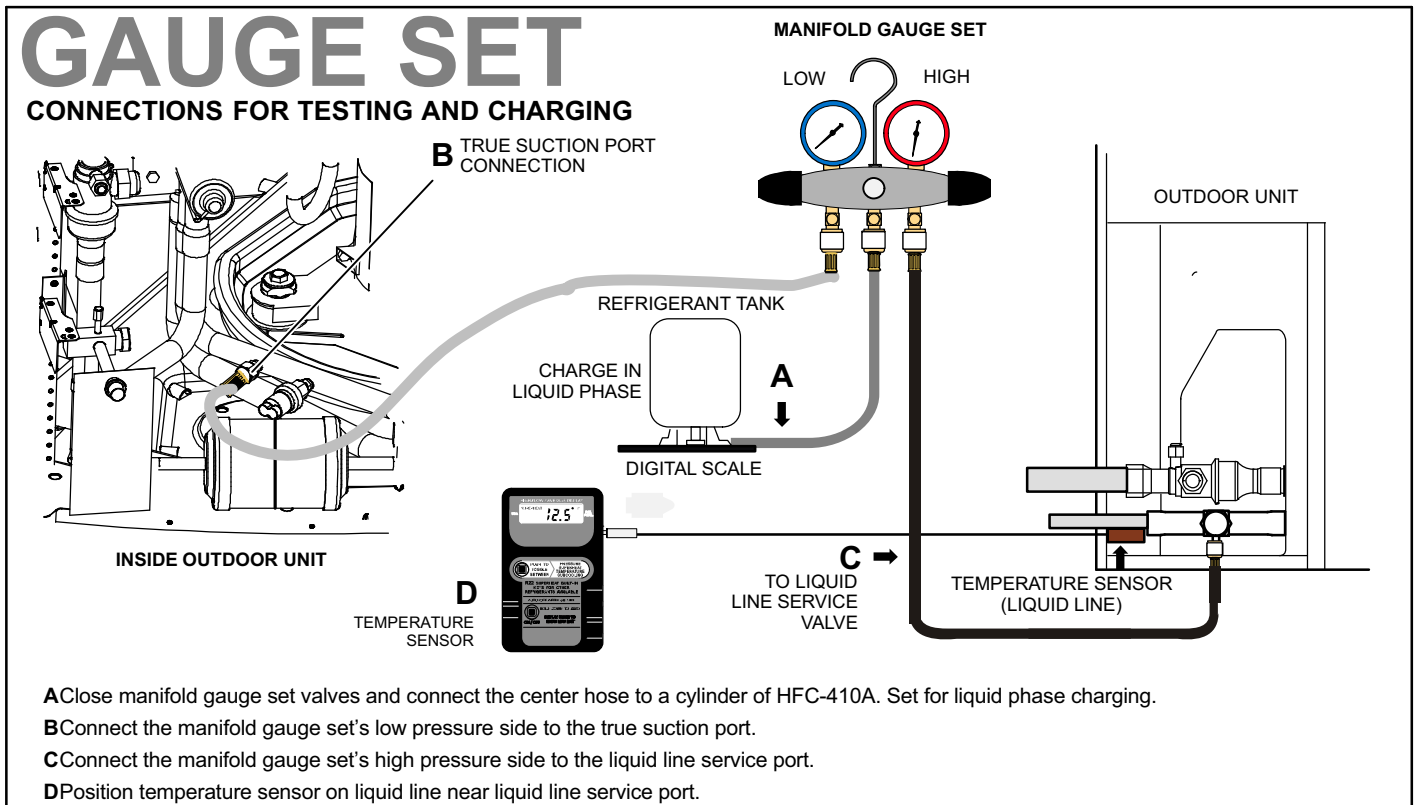

Figure 19. Gauge Set Connections
1. Connecting gauge set for testing and charging (see figure 19).